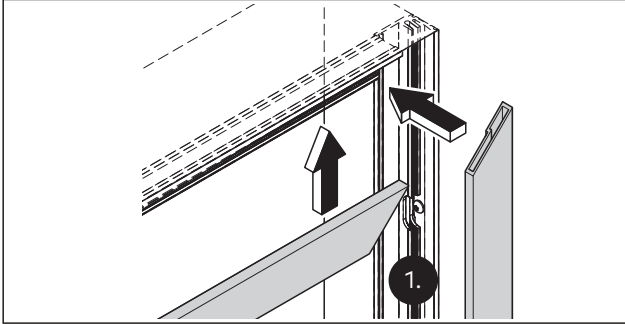

Fig. 20 Example of the fixed glazing adapter profile mounting on corner joint with miter
1. Position the fixed glazing adapter profiles (Fig. 20).